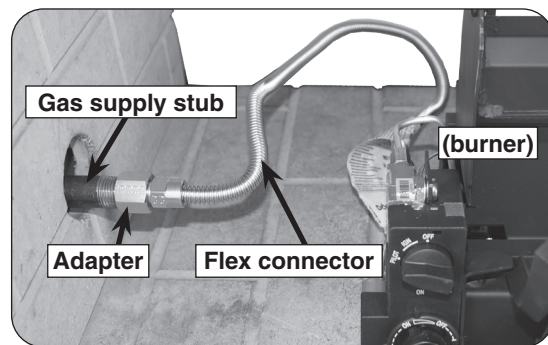

Fig. 15-1 Connect gas supply
2. Locate the gas-supply stub inside the fireplace and remove the cap, if attached (reference Fig. 15-1).
4. **Be sure gas to the fireplace is off.** Remove the adapter connected to the flex connector (pre-installed on the burner system). Attach the adapter to the gas-supply stub using a pipe compound resistant to all gasses. Tighten securely. Then attach the open end of the flex connector to the adapter. Tighten securely. (See Fig. 15-1.)